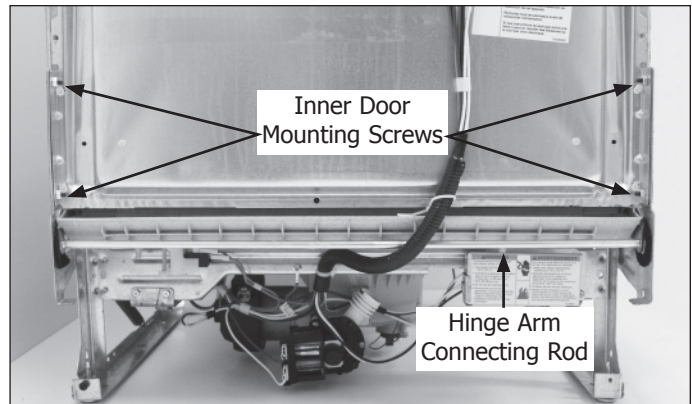

Figure 4-12.
7. Using a Torx T-25 bit and a 3/8" socket or wrench, extract the four screws securing inner door panel to hinge assembly. Remove inner door panel from unit. (See Figure 4-12)